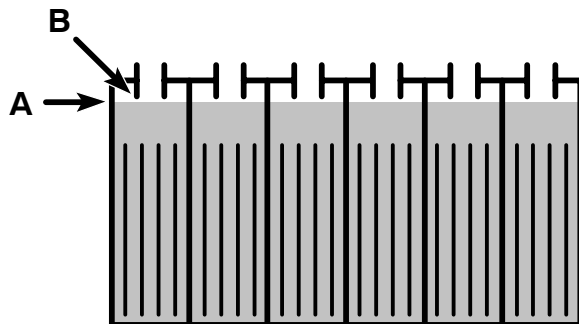

FIG. 40
- Check the electrolyte level (A) in each battery cell **after charging batteries**. The level should be approximately 1 cm (3/8") from the bottom of the fill-port (B). Add distilled water if needed (Figure 40). **DO NOT OVERFILL.**